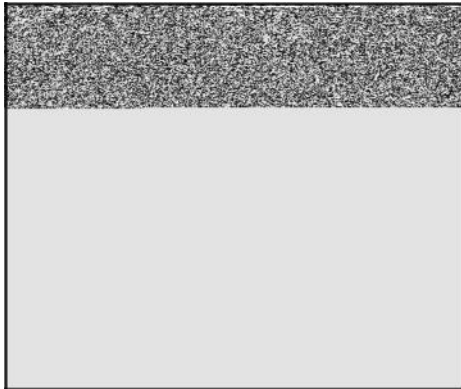

Figure 28
5. Align one of the slots (**G**, Figure 28) of C-Ring Installer #19435 with open end of C-ring (**H**).